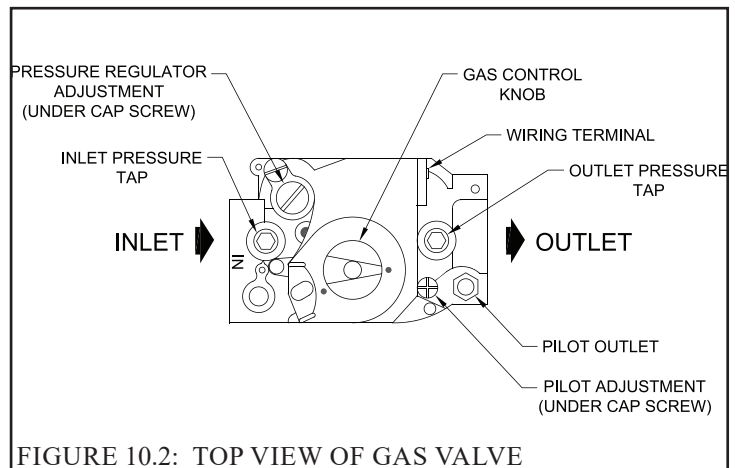

FIGURE 10.2: TOP VIEW OF GAS VALVE
- a) Connect a manometer to the inlet pressure tap on the gas valve (see Figure 10.2).
- d) Connect a manometer to the manifold (outlet) pressure tap on the gas valve (Figure 10.2).
- f) If a manifold pressure adjustment is needed, make the adjustment by turning the regulator screw (see Figure 10.2) clockwise to raise the pressure and counter-clockwise to reduce the pressure. If a manifold pressure adjustment is made, recheck the inlet pressure after making the adjustment to be certain that it is still within acceptable limits. Replace the cover screw on the regulator.